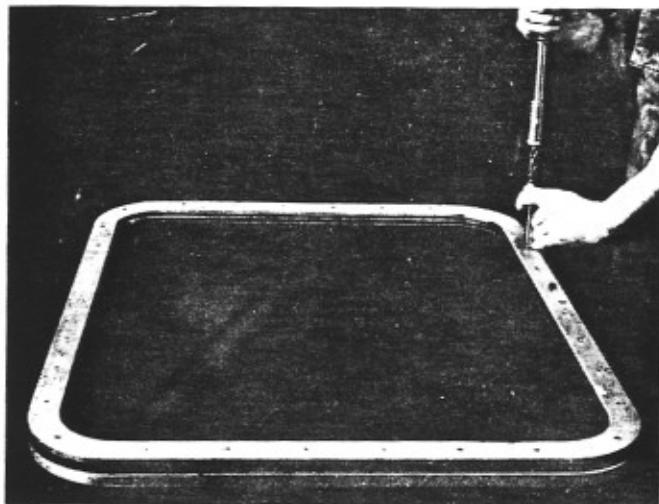

Figure 132
2. Lay flat on table or bench with face of unit showing screw heads on upper side. (See Figure 132)
15. Replace all screws and tighten so there is equal pressure on all four sides of unit. Go around two or three times to be sure all screws are turned up tight. (See Figure 132)